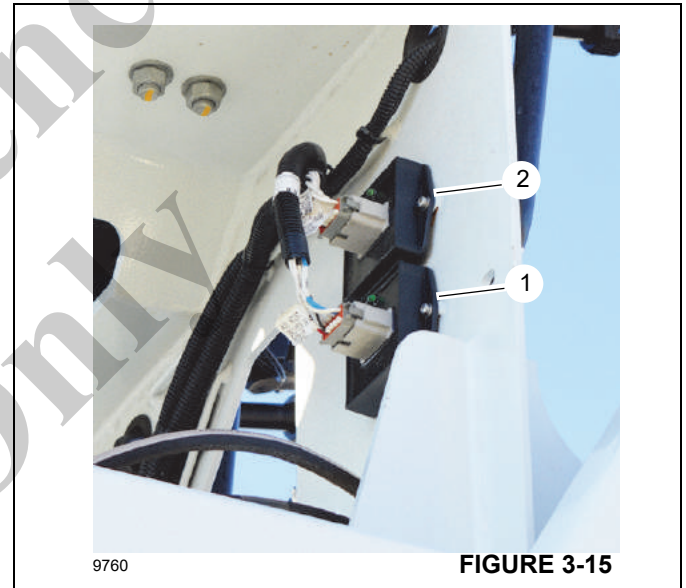

FIGURE 3-15
Use the following procedure to assign a CAN bus ID to the hoist module(s). If equipped, the auxiliary hoist module (1, Figure 3-15) must be disconnected before the main hoist module (2) can be assigned a CAN bus ID. Similarly, the main hoist module must be disconnected before an address is assigned to the auxiliary hoist, if equipped.
4. If equipped, disconnect the auxiliary hoist module (1, Figure 3-15) and press the OK  function key.
5. If equipped with an auxiliary hoist, connect the auxiliary hoist (1) and disconnect the main hoist module (2).
8. Reconnect the main hoist module (2).